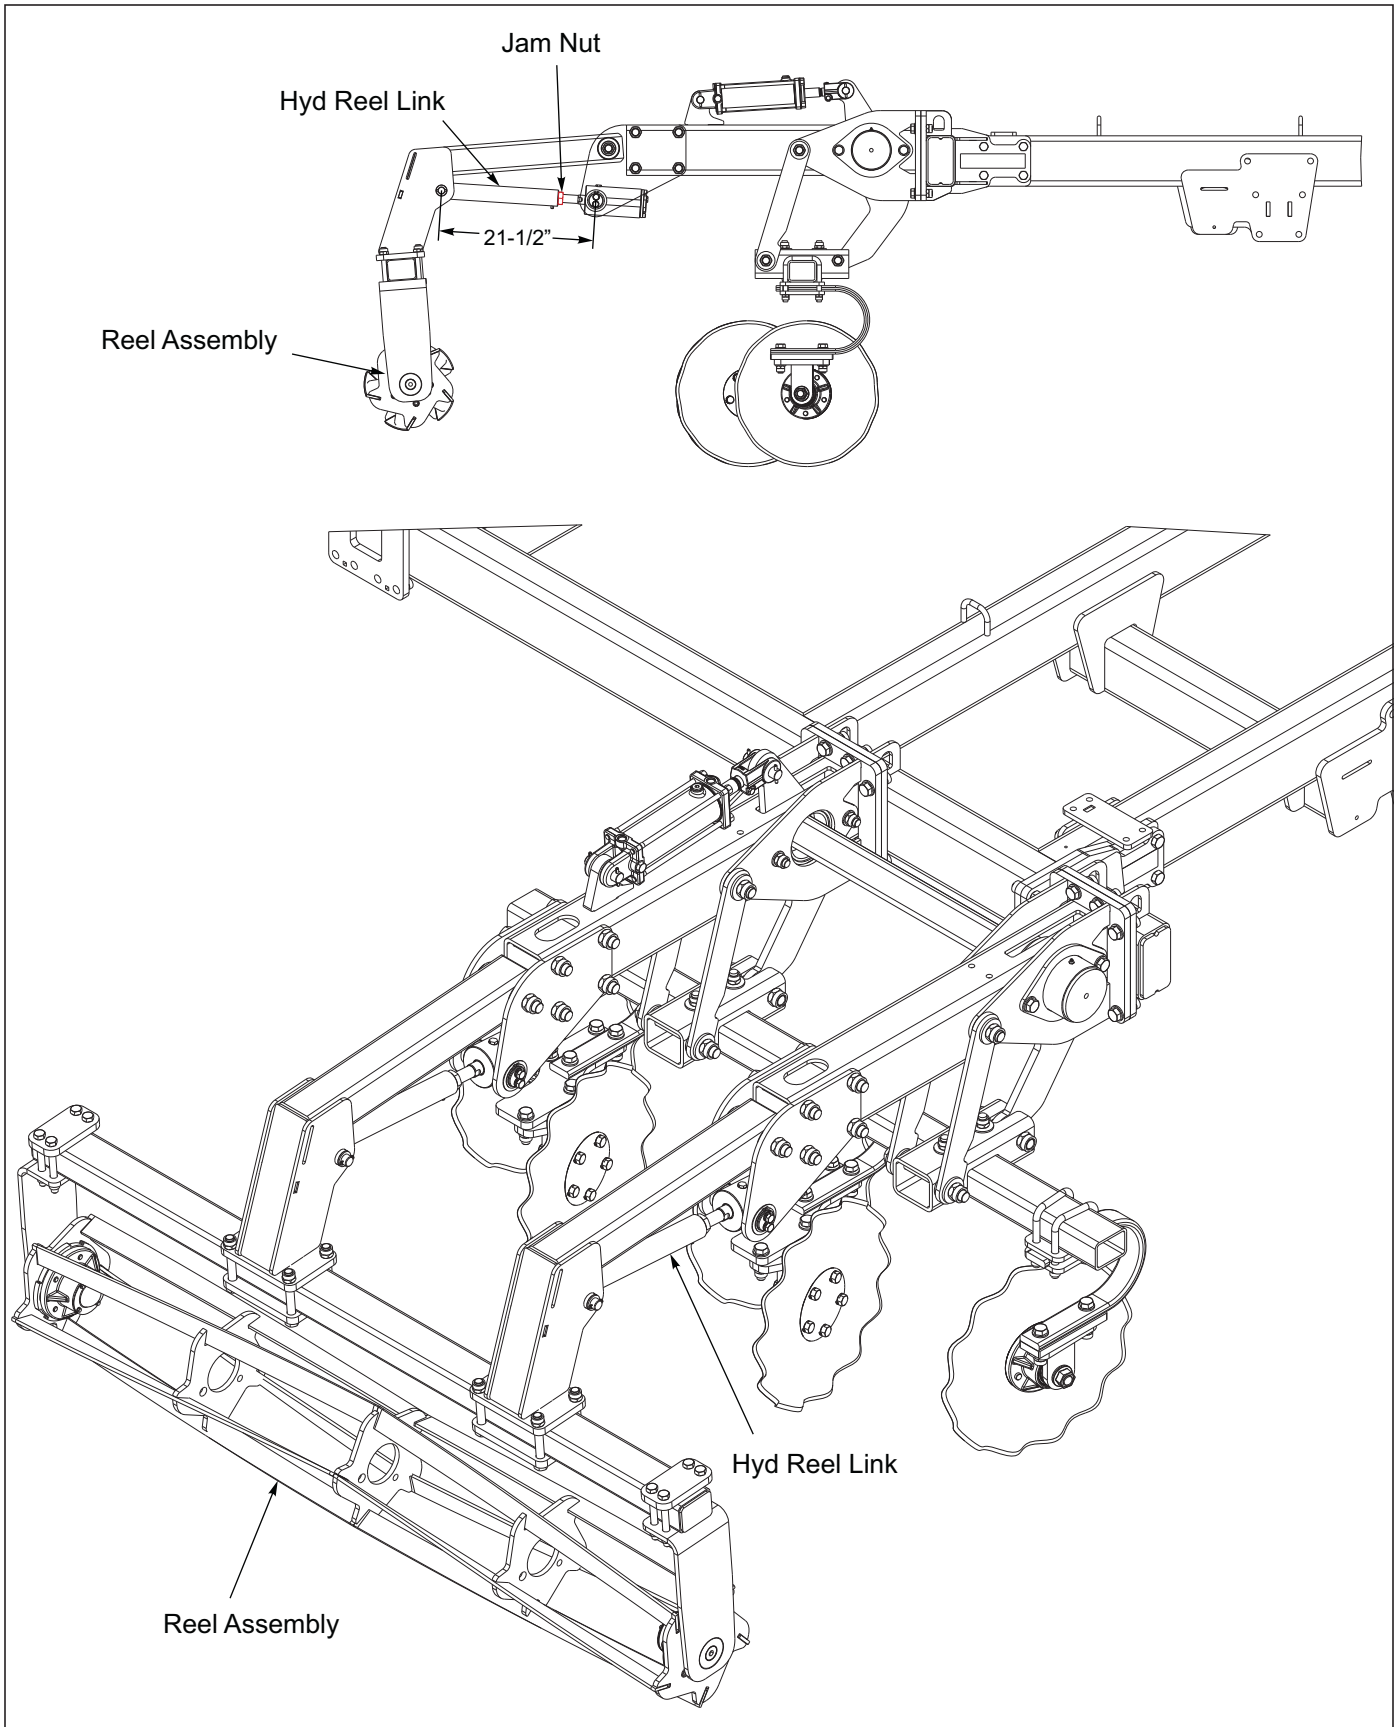

Figure 4-19: Hyd Disc Lev/Reel Adjustments
7. The reel assembly cylinder and link are set at 21-1/2" See Figure 4-19. This measurement should not need adjusted. The reels can be hydraulically raised if needed to prevent plugging in adverse conditions.